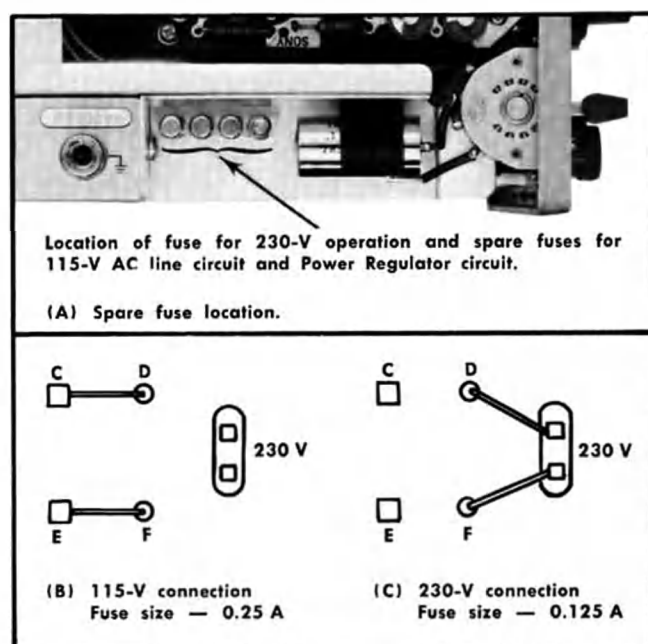

Fig. 2-3. Connections for 115 V and 230 V AC operation.
**115/230 V Connection Changes.** Fig. 2-2(C) illustrates the location of the jumper wires and of the fuse. The two possible circuit arrangements, accompanying fuse sizes and the locations of spare fuses are indicated in Fig. 2-3. Reinstall the insulated tubing over the unused AC terminals.